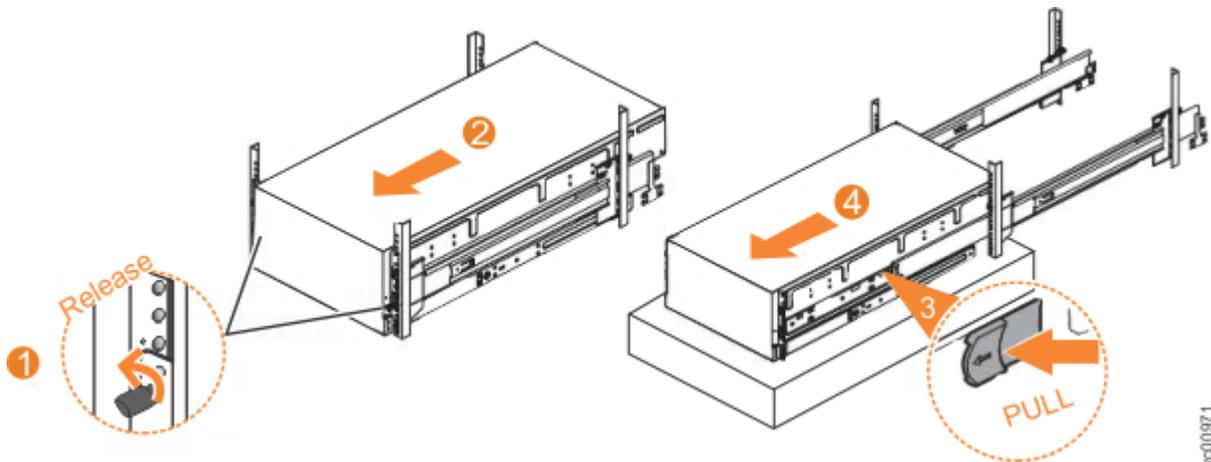

Figure 124. Removing the 5U expansion enclosure from the rack
1. Loosen the locking thumb screws (1) on the front of the enclosure, as shown in Figure 124 on page 191.
2. Carefully slide the enclosure forward out of the rack (2), as shown in Figure 124 on page 191.
3. Locate the left and right blue release tabs near the front of the enclosure. Pull both release tabs forward to unlock the drawer mechanism (3 in Figure 124 on page 191).
4. Slide the enclosure and inner rail member out of the rack (4 in Figure 124 on page 191).